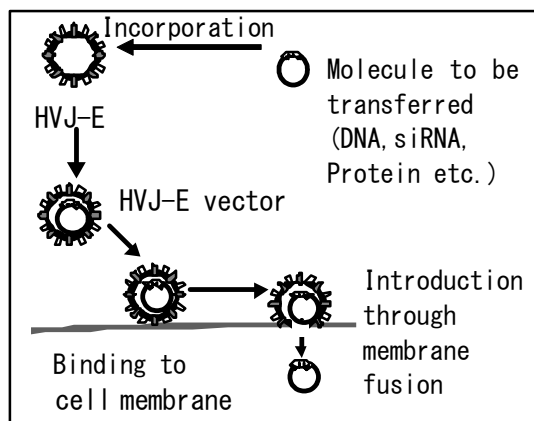

Fig.1 Principle of transfection
The molecule to be transferred (DNA, protein, antisense oligonucleotide, siRNA, etc.) is incorporated in the HVJ-Envelope (HVJ-E) to yield an HVJ-E vector, which is then introduced into the target cell or tissue, making use of the membrane-fusion activity of fusion (F) protein (Fig. 1).